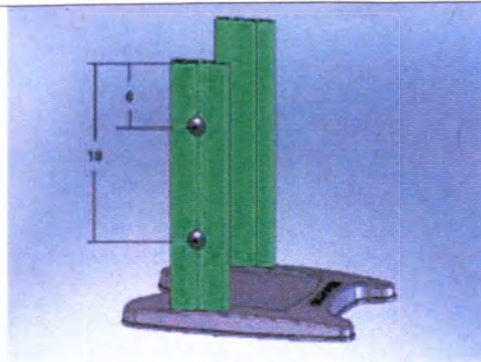

Рисунок 5
5. Locate the knobs as shown in figure 5. Tighten Socket Head Cap Screw using a 3/16 Hex Key to a torque value of 42 in-lbs. (4.9 N-m). The upper knob position is approximately 6 inches (152mm) from the top of the extrusion and the lower knob position is approximately 18 inches (457mm) from the top of the extrusion.